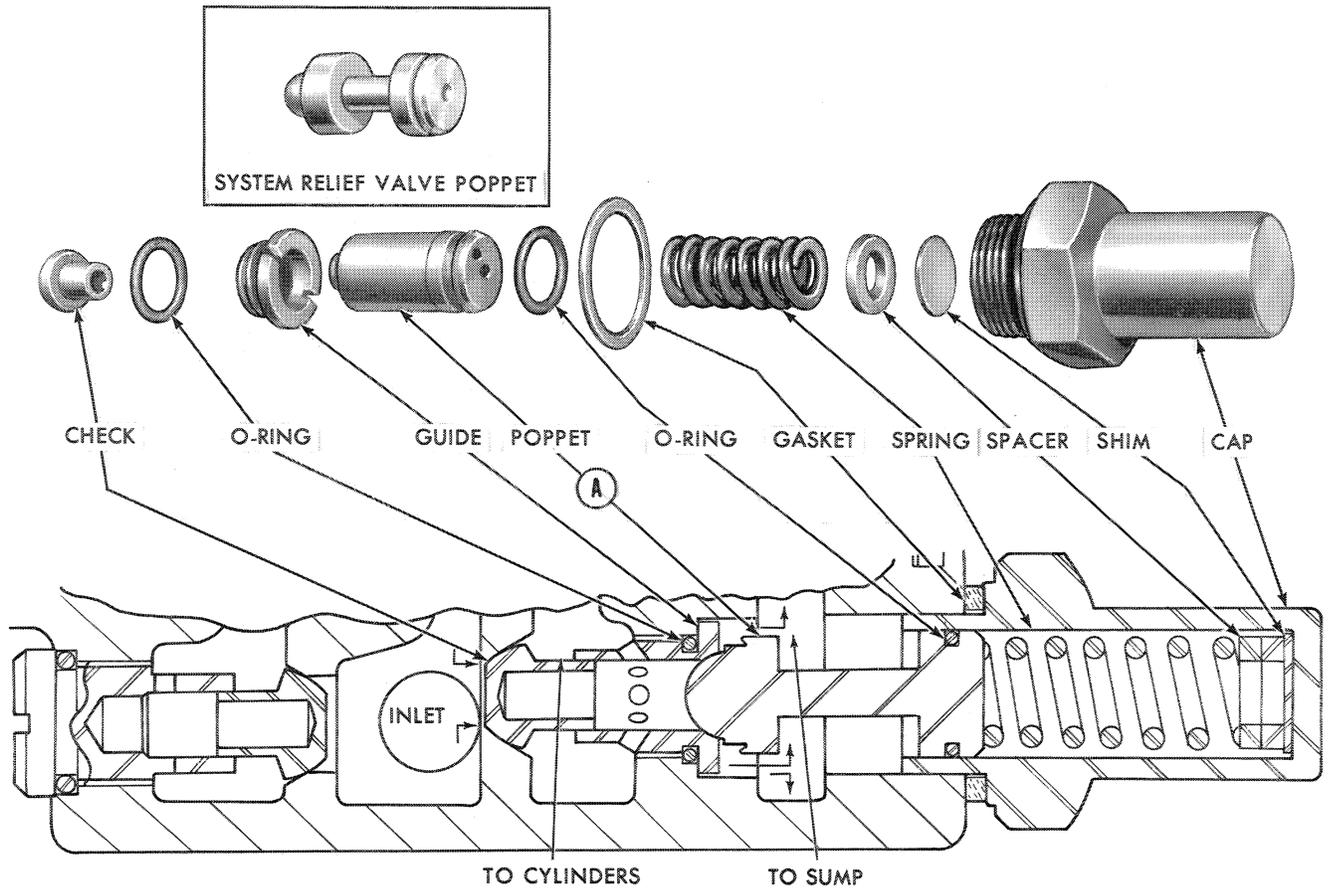

Figure 17
The system relief valve, Figure 17, is located between the high-pressure passage and the low-pressure passage.
NOTE: *There are two designs of the system relief valve poppet in production. See Insert, Figure 17.*
In operation, oil entering the inlet port normally is maintained below the pressure required to unseat the relief valve poppet (A), Figure 17. When system pressure exceeds the setting of the relief valve (see "Specifications", page 108), the poppet moves to allow oil to flow into the inner area of the relief valve which connects to the sump passage. As system pressure decreases, the spring force causes the poppet to seat. All pumped oil, within pressure specification limits, then enters the internal passages of the control valve and is directed to a cylinder or to sump.